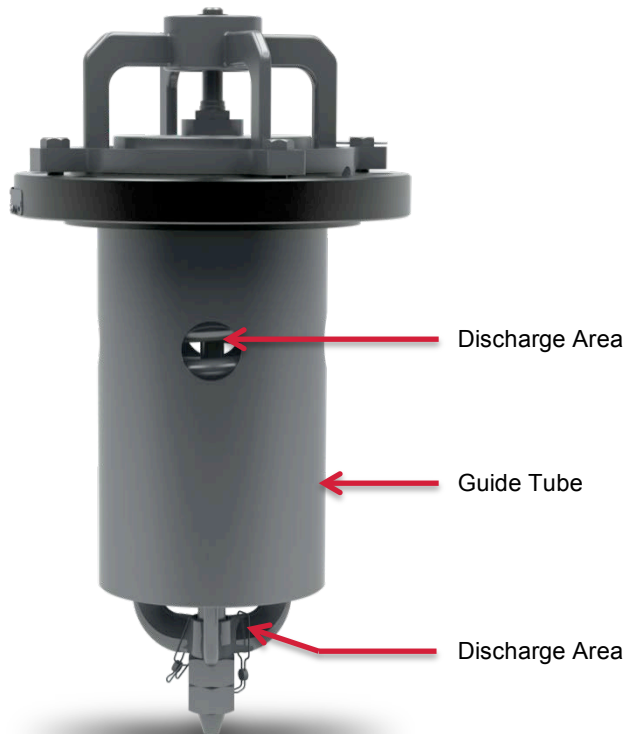

Figure 4-11 Guide Tube
- 4.1.9.1 This guide tube is principally a structural part. There should be no paint on the inside of the guide tube. The area of discharge through the guide tube (Figure 4-11) must be unobstructed by foreign matter that would hinder free flow of discharging fluid. Inspect the guide tube by moving the top guide up and down the length of the guide tube as indicated below. If it binds, look for dents or gouged surfaces on the inside of the guide tube. Repair the damage to allow free movement of the spring guide.